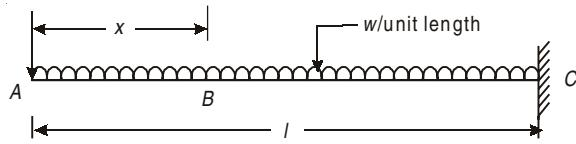

Fig. 5.17
B.M. at $A = 0$ (where $x = 0$ and increases in the form of a Parabolic Curve to $-\frac{wl^2}{2}$ at C (where $x = l$) (Refer Fig.5.17).